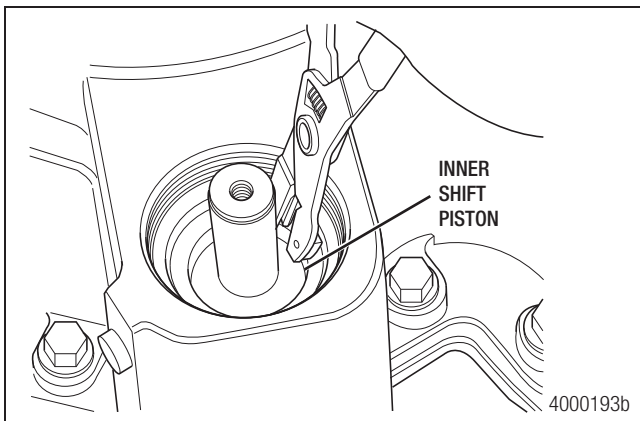

Figure 5.20
- To remove the inner piston, reinstall and hand-tighten the shift cylinder. Apply air to the high gear input port. When the air pressure pushes the inner piston UP, remove the snap ring and inner piston. Figure 5.20.